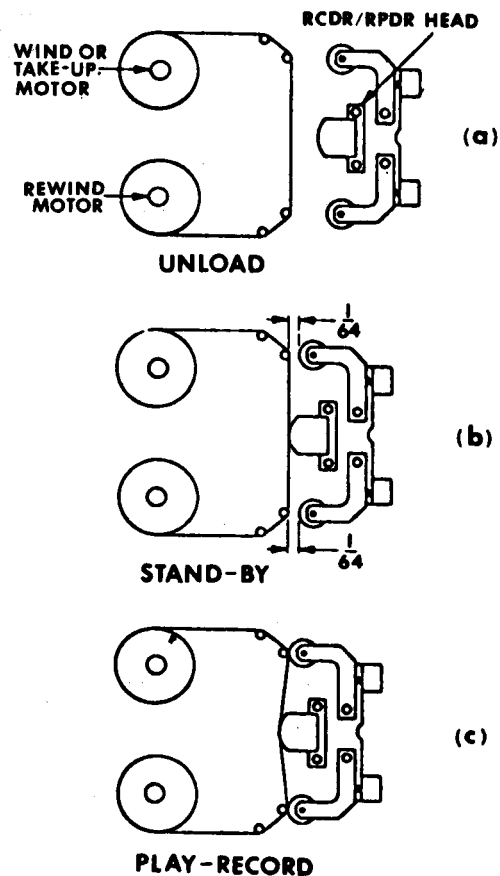

FIGURE 6-3
e. Head Contact. The relative position of tape to head contact, illustrated in Figure 6-3. (a) occurs when the CASSETTE MODE KNOB is in the UNLOAD-LOAD position. Rotating the CASSETTE MODE KNOB to the STANDBY position results in the following:
(1) The head is brought into slight contact with the tape, but the pinch rollers are not engaged as illustrated in Figure 6-3. (b). This position is maintained during fast forward and fast rewind modes of operation, permitting rapid signal location, or in the STOP mode, awaiting fictional commands.
(2) If either the RECORD and/or REPRODUCE pushbuttons are pressed, both the brake-solenoid (A2L2) and the latch solenoid (A2L1) are activated, releasing the brakes, bringing the tape into firm contact with the head. (See Figure 6-3. (c)). The pinch rollers are engaged, initiating controlled tape motion.